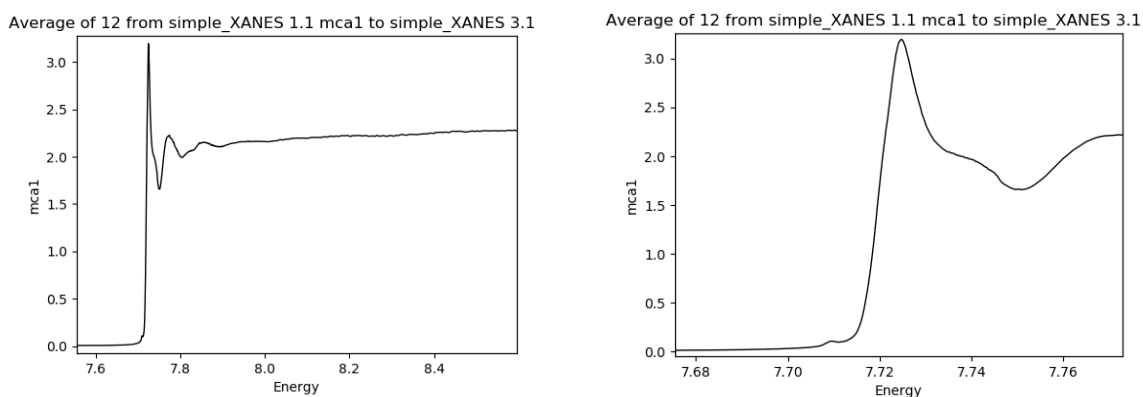

Figure 1-14: All mca channels from all three spectra are averaged together, showing the whole spectrum (left) and just the edge (right).
- 17) Hopefully we can all agree that these edges look essentially identical, so we can safely say that no damage is occurring. With that decided, we can now go ahead and average together all of the channels from all of the spectra. Back in panel B, check the boxes for mca1, mca2, mca3, and mca4, click the “Replace” button to get rid of the normalized spectra, and then click on each of the three scans to plot all 12 spectra. Finally, click on the average icon (☑) in panel D to average all of these together. To make the resulting spectrum less ugly, you can click the “Toggle Points / Lines” icon in panel D until you get a smooth line; your average should look like Figure 1-14.